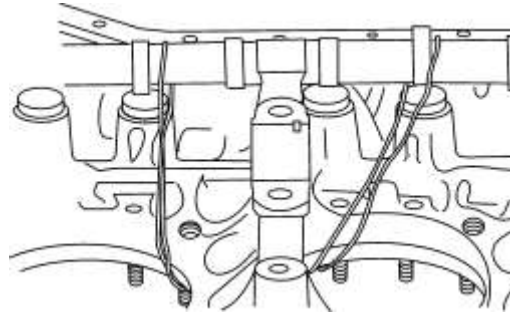

Figure 79
- (6) Tie a loop of soft wire around the camshaft and left crankcase half (as shown in Figure 79) to hold the camshaft securely in place.